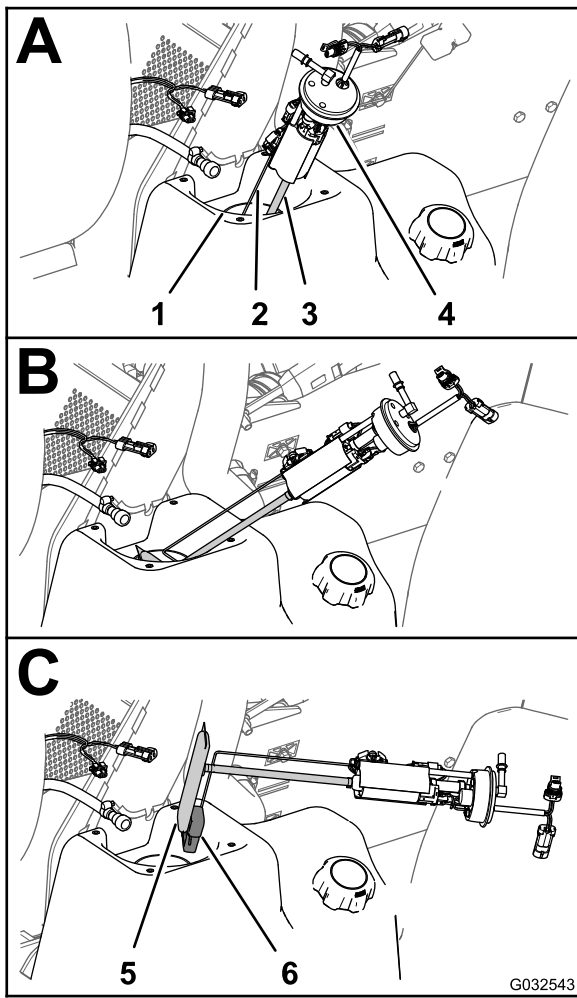
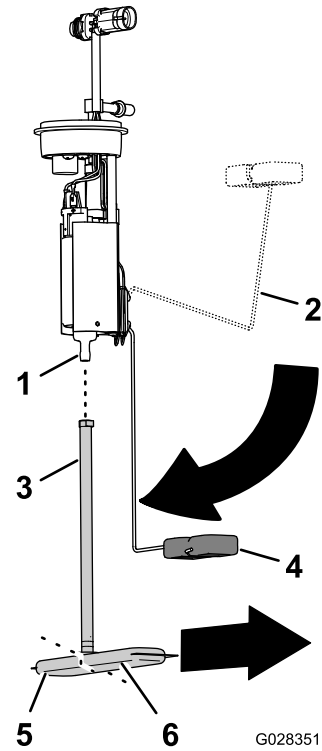

Figure 75
Figure 76
4. Carefully lift and rotate the fuel pump/sending unit out of the neck of the fuel tank (Figure 75).
1. Remove the pickup tube of the fuel filter from the fitting of the fuel pump (Figure 76).
2. Align the pickup tube of the new fuel filter with the fitting of the fuel pump (Figure 76).
3. Align the long leg of the fuel filter with float when the float arm is in the empty position (Figure 76).
4. Insert the fuel-pump fitting into the pickup tube until the fitting is fully seated (Figure 76).
1. Support the float arm and pickup tube together and slip the float and fuel filter into the opening in the fuel tank (Figure 75).
2. Seat the fuel pump/sending unit into the opening in the tank (Figure 75 and Figure 76).
3. Install the seal and nut over the fuel pump/sending and onto the neck of the fuel tank and tighten the nut hand tight (Figure 75).
4. Connect the coupling on the fuel hose to the fitting of the fuel pump (Figure 75).
5. Connect the 2-socket connector of the machine-wiring harness to the 2-pin connector of the fuel pump/sending unit; Connect the 2-pin connector of the machine-wiring harness to the 2-socket connector of the fuel pump/sending unit (Figure 75).